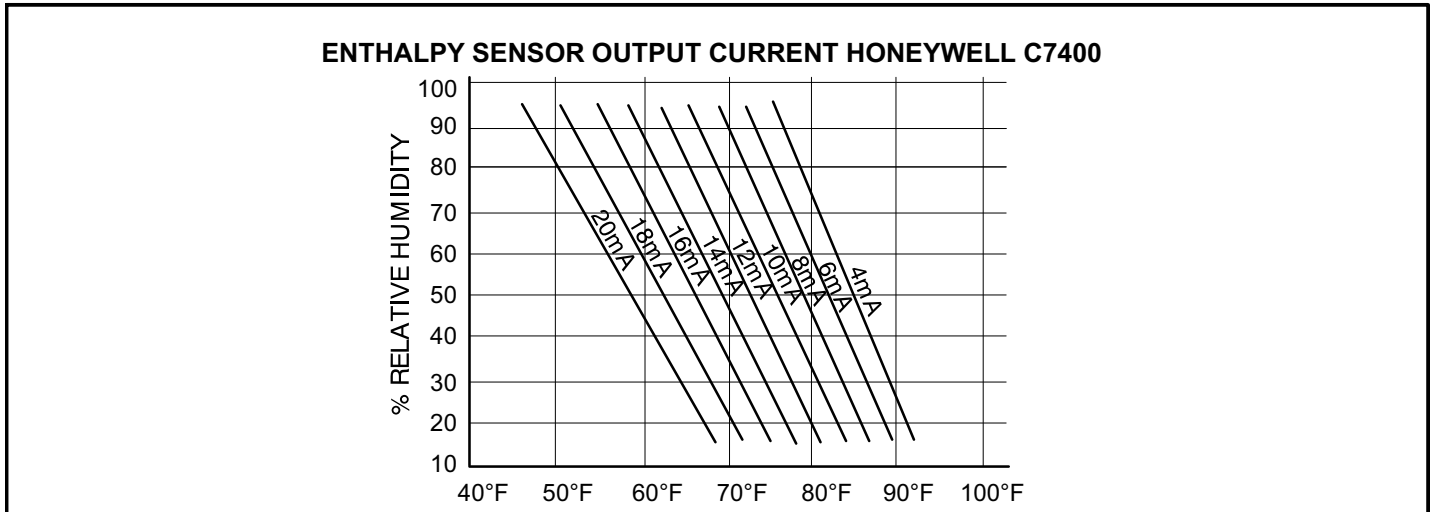

FIGURE 14
This setting pertains to the single enthalpy free cooling mode only. The M3 Unit Controller will enable free cooling when outdoor air enthalpy (A7) is less than the enthalpy set point (Parameter 162 - ECON FREECL ENTH SP). Figure 14 shows the approximate enthalpy sensor output at various temperatures and percentage of relative humidity.
- B** The reading will be between 4 and 20 ma. depending on outdoor temperature and humidity. Refer to figure 14 to approximate reading.